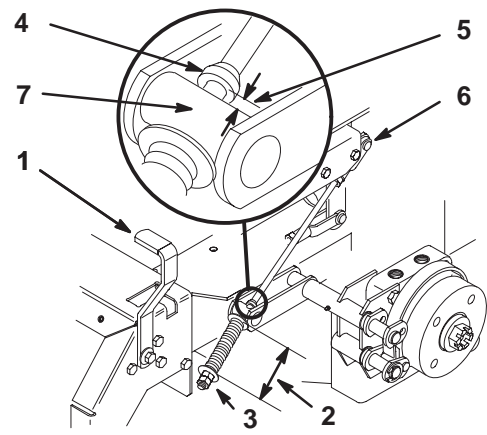

Figure 47
2. Measure the length of the spring. Measurement should be 2-3/4 inch (70 mm) between washers (Fig. 47).
3. If adjustment is necessary, loosen the jam nut below the spring and tighten the nut directly below the yoke (Fig. 47). Turn the nut until the correct measurement is obtained. Tighten the two nuts together and repeat on opposite side of unit.
6. Measure the distance between the trunion roller and the collar on brake rod. Measurement should be 3/16 –1/4 inch (5–7 mm) (Fig. 47).
7. If adjustment is necessary, loosen the jam nut directly below the yoke. Turn the bottom adjusting nuts until the correct measurement is obtained (Fig. 47). Tighten jam nut at yoke